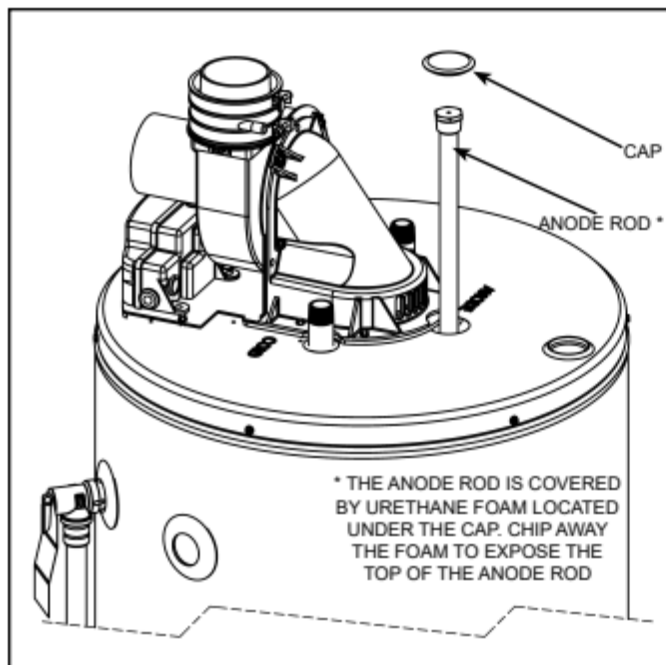

Figure 52.
- See the Figure 52 for anode rod location.